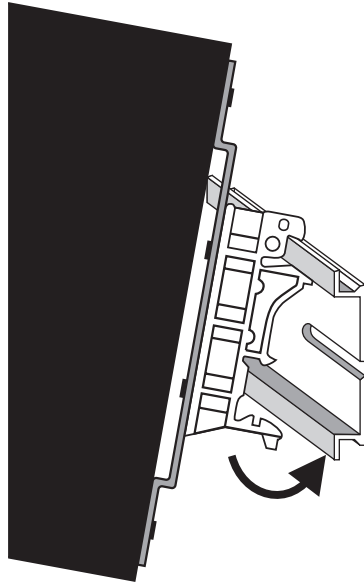

Figure 8: Assembly on carrier rail 1
- Figure 8: Assembly on carrier rail 1 19